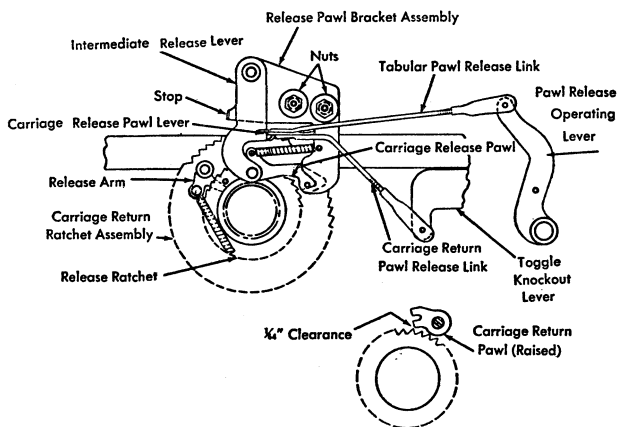

Figure 8. Carriage Release Mechanism
Any carriage-release operation, whether by carriage return, tabulation or manual carriage release, actuates the carriage-release-pawl lever (Figure 8). The carriage release-pawl-lever pushes against the intermediate release lever, actuating the carriage-release pawl.
CARRIAGE-RELEASE-PAWL LEVER. Take out the pivot screw of this lever and unhook the carriage-return-pawl release link and the tabular-pawl release link (Figure 8).
RELEASE-PAWL BRACKET ASSEMBLY. Disconnect the carriage-release-pawl spring. Take off the two nuts that mount the assembly (Figure 8).
2. **THE RELEASE PAWL BRACKET NUTS** should be loosened just enough to tap the bracket into position (Figure 8).
5. **THE STOP** on the release-pawl bracket may interfere during a pawl-release operation. Should this occur, form the stop out of the way or remove it (Figure 8).
The action of the side knockout lever and the carriage-return operating link pivots a bell crank. The motion is then transferred to a toggle knockout link, raising a toggle knockout lever. This lever moves the carriage-return-pawl release link which pushes the carriage-release-pawl lever (Figure 8). This condition causes carriage release, as described in "Carriage Release."
1. THE CARRIAGE-RETURN-PAWL RELEASE LINK is adjusted so that, with the clutch latched, the carriage-return pawl should clear the escapement-pinion ratchet wheel by $\frac{1}{64}$ " (Figure 8). To check this clearance, rotate the carriage-return ratchet, by using the space bars, until the carriage-return pawl can be observed.
5. **TABULAR PAWL-RELEASE LINK** should be adjusted so that the carriage-return pawl clears the escapement-pinion ratchet wheel by $\frac{1}{64}$ " when the tab lever is latched up (Figure 8).